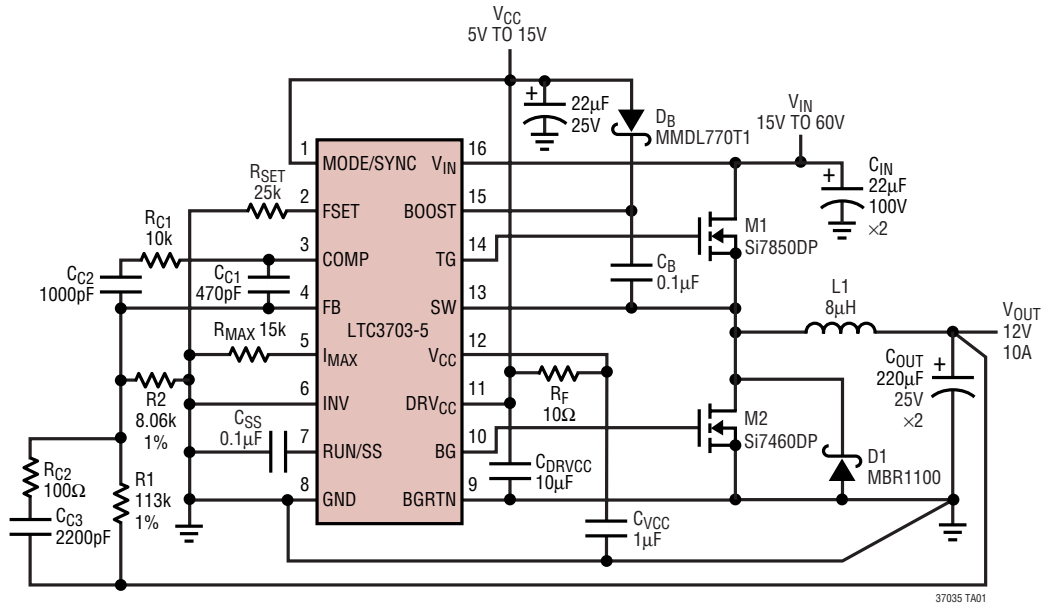

**Figure 20. LTC3703-5 Buck Converter Suggested Layout**
When laying out the printed circuit board, the following checklist should be used to ensure proper operation of the LTC3703-5. These items are also illustrated graphically in the layout diagram of Figure 20. For layout of a Boost Mode Converter, layout is similar with  $V_{\text{IN}}$  and  $V_{\text{OUT}}$  swapped. Check the following in your layout:
5. Place the small-signal components away from high frequency switching nodes (BOOST, SW, TG, and BG). In the layout shown in Figure 20, all the small signal components have been placed on one side of the IC and all of the power components have been placed on the other. This also helps keep the signal ground and power ground isolated.